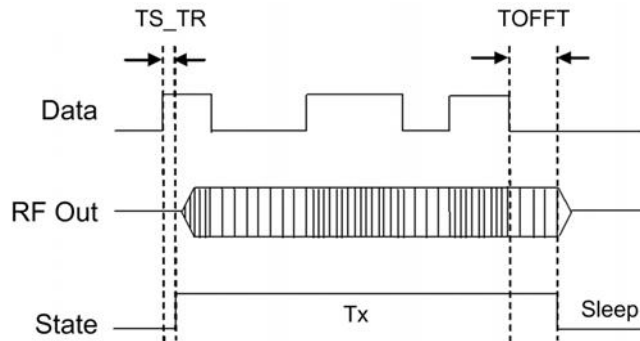

Figure 3. ‘Power & Go’ Mode: Transmitter Timing Operation
**Automatic Mode** operation is described in Figure 3. Here we see that a rising edge on the DATA pin activates the transmitter start-up process. DATA must be held high for the start-up time (TS\_TR) of the MD1243. During this time the MD1243 undergoes an optimized, self-calibrating trajectory from Sleep mode to Transmit mode. Once this time has elapsed, the MD1243 is ready to transmit. Any logical signal subsequently applied to the DATA pin is then transmitted.